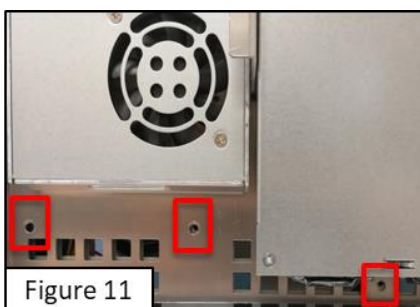

Figure 11
- Loosen the screw at the left of the **Power Supply** (as shown in Figure 11).
- Click **Properties** (as shown in Figure 11) > **Rename this PC** (as shown in Figure 12).